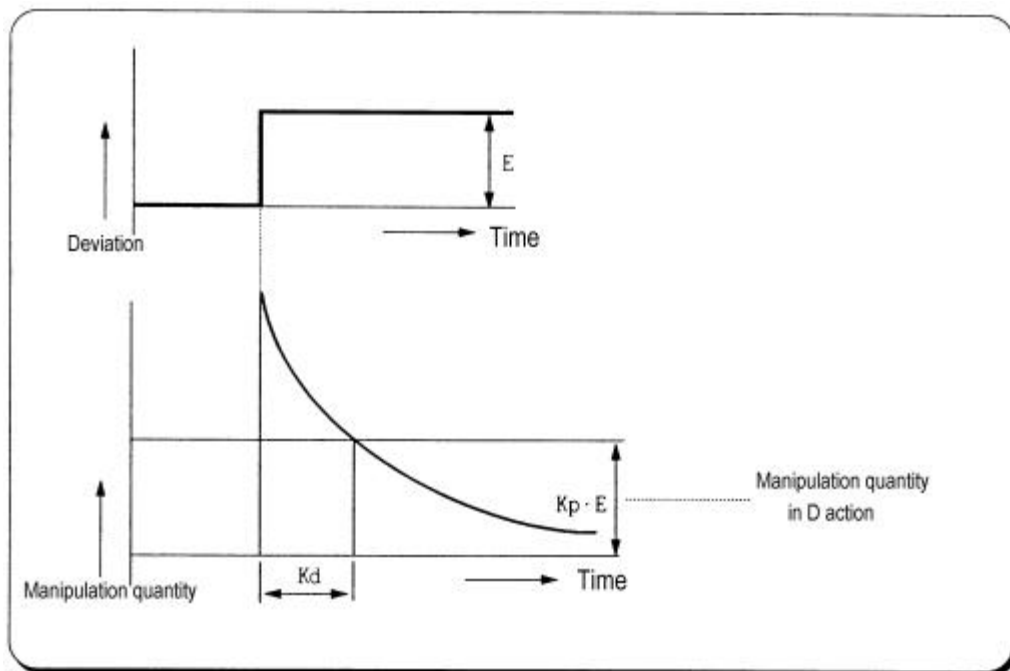

Figure 15.7 Derivative action with a constant deviation
- 3) The D action when a constant deviation occurs is shown as Fig. 15.7.